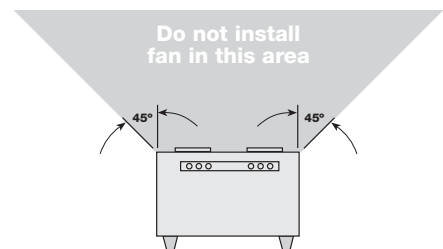

Figure 2 — Mounting Location
They are designed primarily for low temperature, clean air applications only. Figure 2 shows the minimum distance these fans should be placed in relation to cooking equipment.
1. For best performance, choose a location with the shortest possible duct run and minimum number of elbows. Do not mount near cooking equipment, shown in Figure 2.